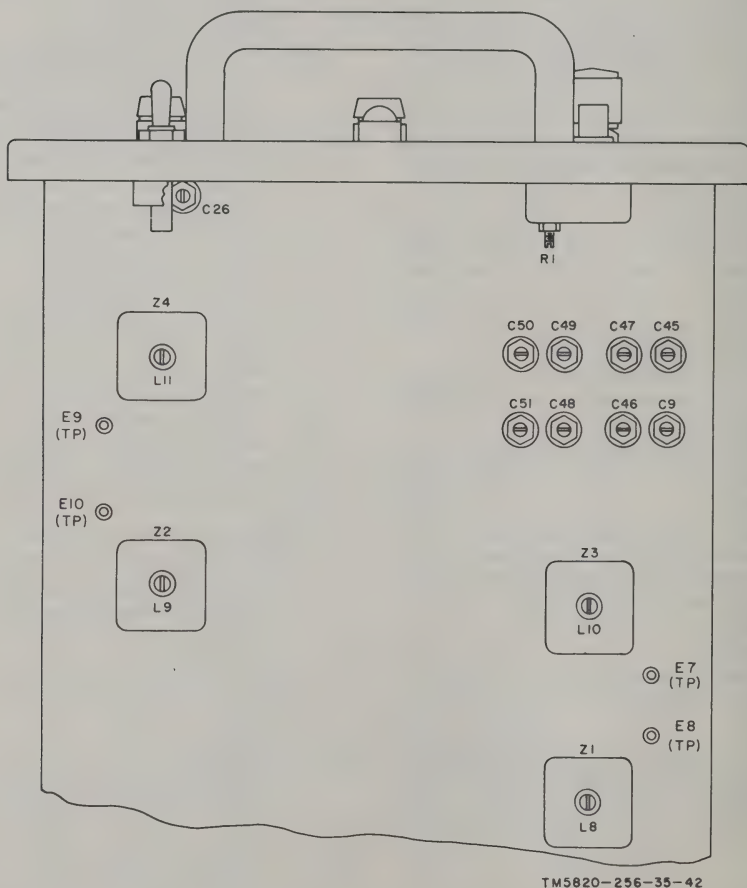

Figure 4-3. Modulator, Radio MD-239A/GR, alignment points.
modulator, refer to figure 4-3 and preset the controls listed in the following chart as indicated. To insure correct settings, turn all trimmer controls listed *fully counterclockwise* before setting to the indicated position.
- (1) Set the fsk-modulator BAND SELECTOR switch to 1.5-2.
- (2) Connect the TS-505(\*)/U (arranged as a dc voltmeter) to test point E7 (fig. 4-3).
- (3) Adjust the slug of Z3 (L10) clockwise until the TS-505(\*)/U indicates -7 volts dc.
- (4) Connect the TS-505(\*)/U to test point E9.
- (5) Adjust the slug of Z4 (L11) clockwise until the TS-505(\*)/U indicates -7 volts.
*Note.* On the MD-239A/GR, procure on Order No. 3219-Phila-59, secure the locking bushings on the tuning slug and recheck the adjustments ((1) through (5) above).
f. The EXCITATION meter on the transmitter should indicate a minimum grid drive of 8 ma. If it does not, rotate gain control potentiometer R1 (fig. 4-3) or R2 (fig. 4-2) clockwise until it does.